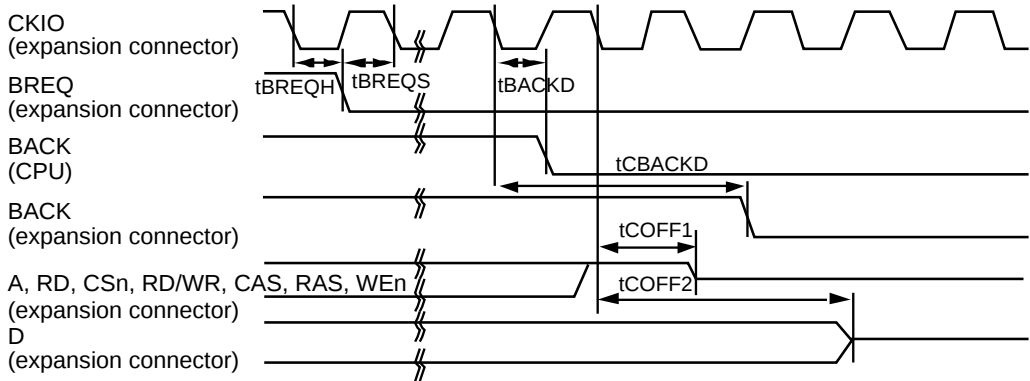

Figure 5.8 Bus Release Timing (1)
(3) RSTOUT: A low-level pulse is output when the CPU is reset (at power on, when the manual reset switch is pressed, or when the reset signal is input from the expansion connector).
(4) BACK: See figures 5.8, 5.9, 5.11 and 5.12.
- (5) BREQ: See figures 5.8, 5.9, 5.11 and 5.12.
- (6) TCLK: Clock input for the timer. Jumper J3 selects either the CPU board clock or clock input from the expansion connector.
- (7) NMI: Invalid and not reserved during monitor program execution.
- (8) WAIT: The result of ORing the WAIT signals from the CPU board resource area 0 and area 6 (PCMCIA space) on access is input to the CPU.
- (9) CKIO: Output only. Provides the same frequency as that set by jumpers J9 and J10. It is recommended that a terminal resistor is connected to the expansion board.